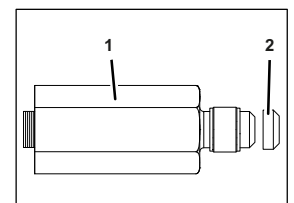

Fig. 72
4. Check the seals (Fig. 72/2) for damage.
Replace any damaged seals (Fig. 72/2).